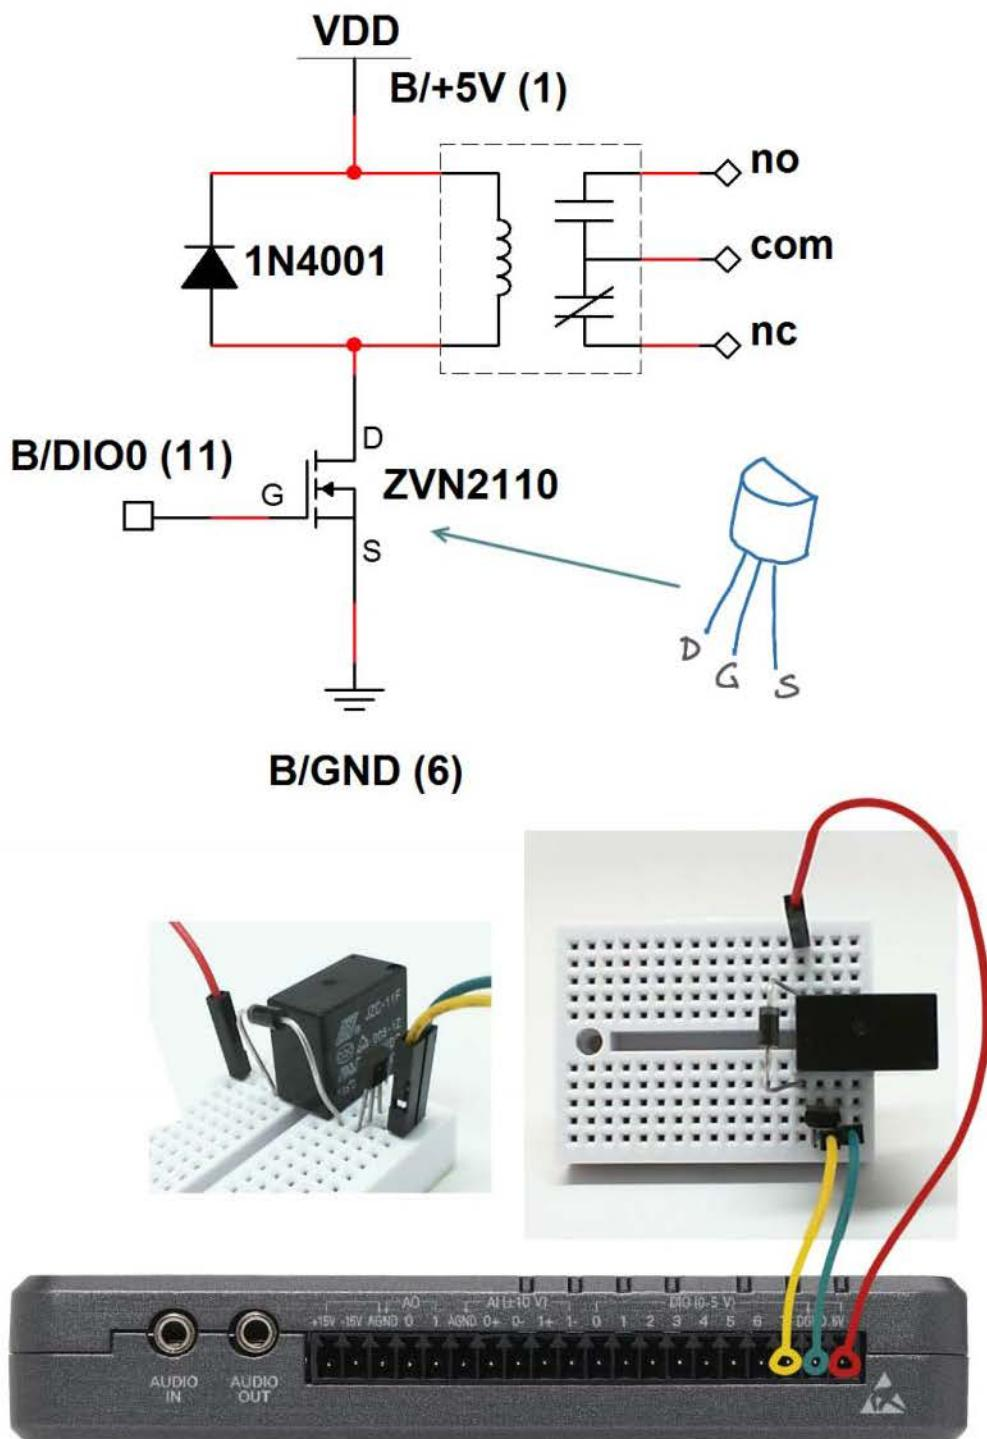

Figure 6.3: Relay interface circuit suitable for internal pull-down resistors on NI myRIO MSP Connector C.
- Build and test the interface circuit for a relay controlled from the MSP connector; see Figure 6.3 on the facing page. Select C/DIO7 (pin 18) as the relay control line on the myRIO DIO channel front-panel control. Power the circuit from the MSP connector with C/+5V (pin 20) and the digital ground C/DGND (pin 19).